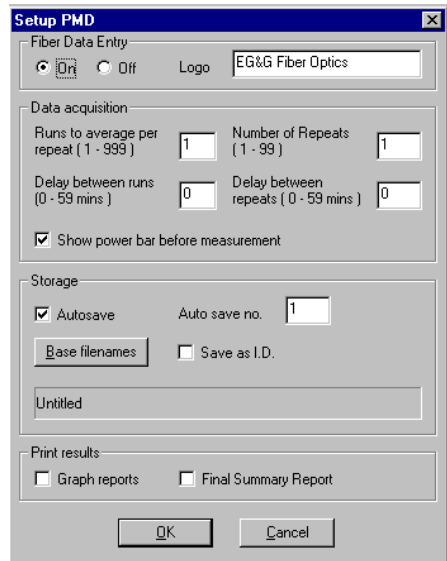

Figure 2-4: PMD Setup Details
- Click “EDIT, Setup PMD.” Fiber Data entry allows you to manually enter fiber details before each entry. The Setup PMD box displays. (See Figure 2-4: PMD Setup Details.)